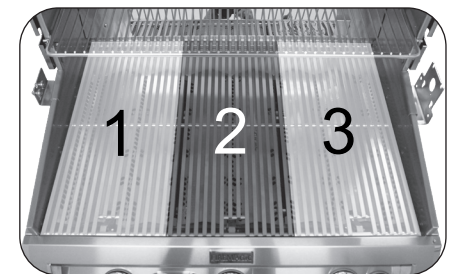

Fig. 30-2 Cooking zones detail
Your grill is divided into three cooking zones, each corresponding to a burner. Burners are numbered starting at one (1) on the left, going to three (3) on the right (see Fig. 30-2). The cooking zones are monitored by the digital thermometer - see DIGITAL THERMOMETER section.